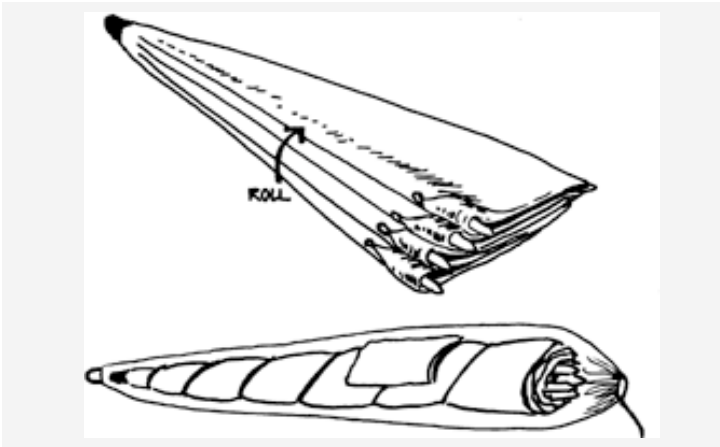

Figure 12-6
4. Pull the tent bag over the bundle, insert the floor sheet, and tie off the tent bag as shown below in figure 12-6.